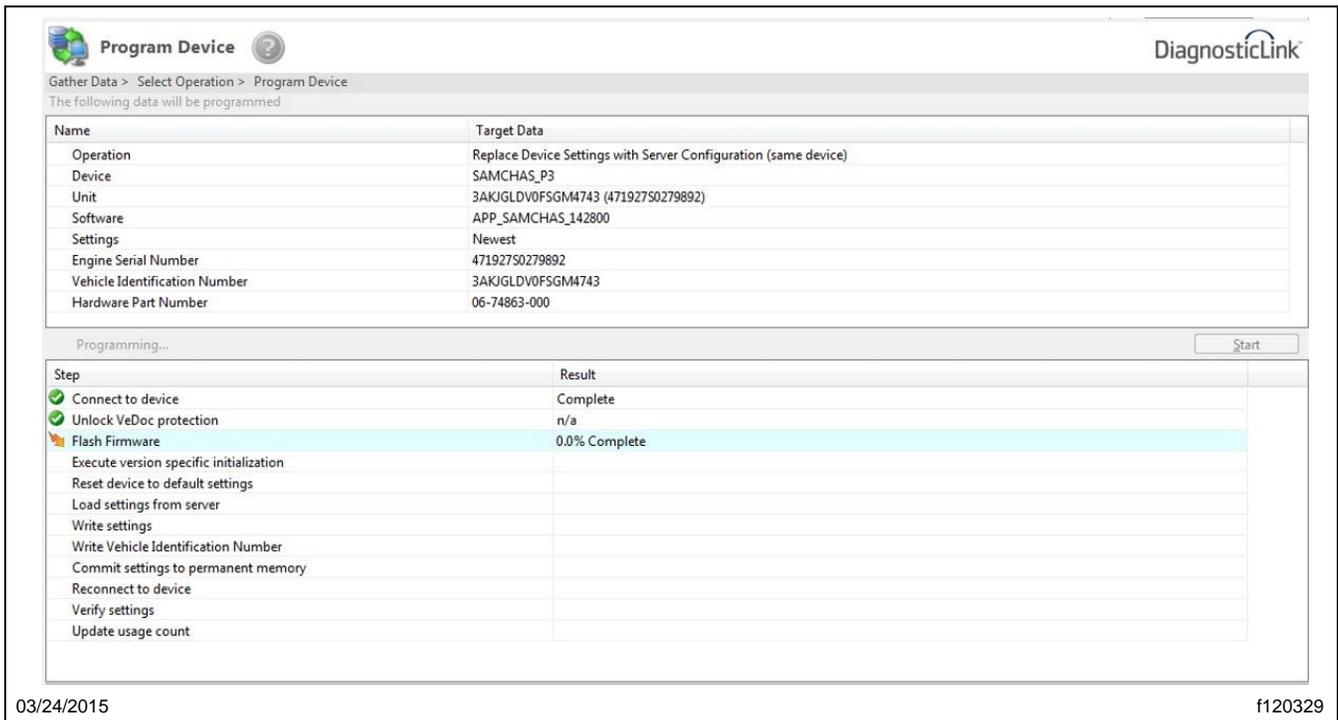

Fig. 9, Program Device Page, SAM Chassis
2. Click **Next** to display the "Program Device" page. See **Fig. 9**.